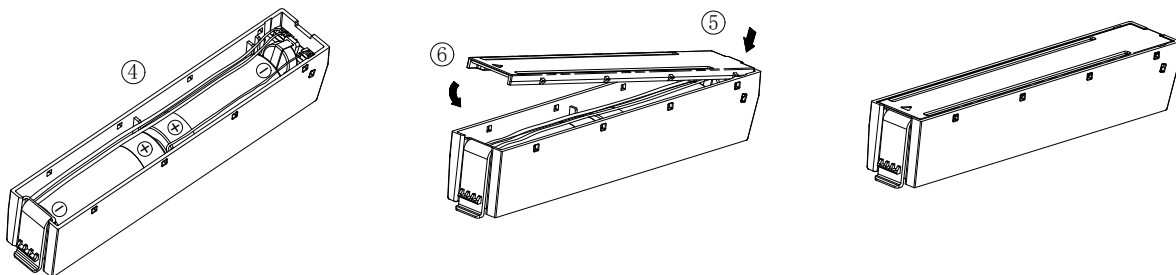

Figure 4-12 Organize battery leads and install cover plate
3. As shown in the left figure of Figure 4-12, organize the battery leads to make them as close to the battery as possible;
4. As shown in Figure 4-12, first press down the battery box cover on one side of the battery lead plug to the corresponding position, and then gradually press down on the other end, so that all the buckles on both sides of the cover are fastened into the corresponding square holes.
5. Installation is complete, as shown in the right figure of Figure 4-12.